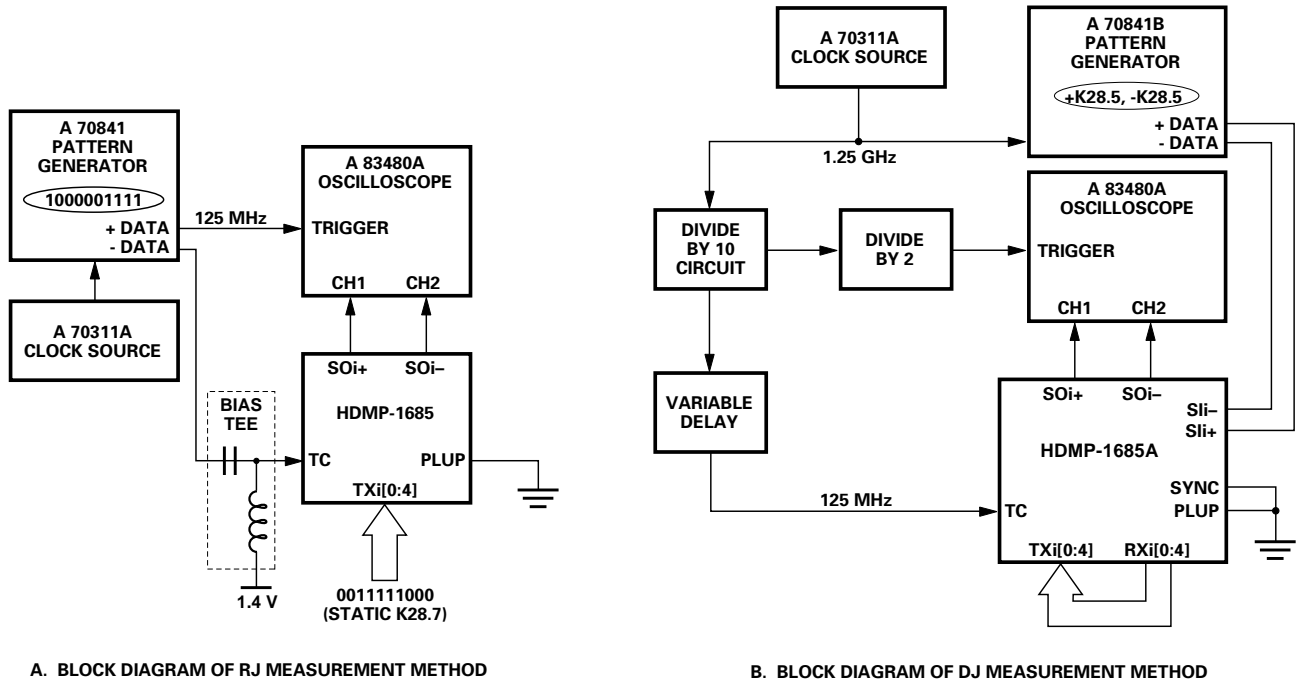

Figure 8. Transmitter jitter measurement method.
1. Defined by Fibre Channel Specification X3.230-1994 FC-PH Standard, Annex A, Section A.4 and tested using measurement method shown in Figure 8.